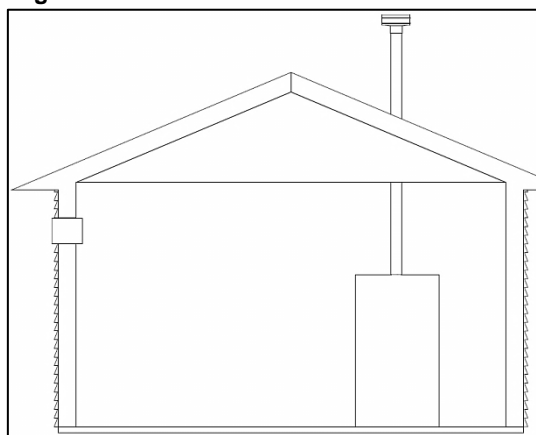

Figure 16 – Combustion Air From Outdoors – Single Opening
4. If a single combustion air opening is provided to bring combustion air in directly from the outdoors, the opening must be sized based on a minimum free area of one square inch per 3000 BTU/hr. This opening must be located within 12" of the top of the enclosure. See Figure 16.